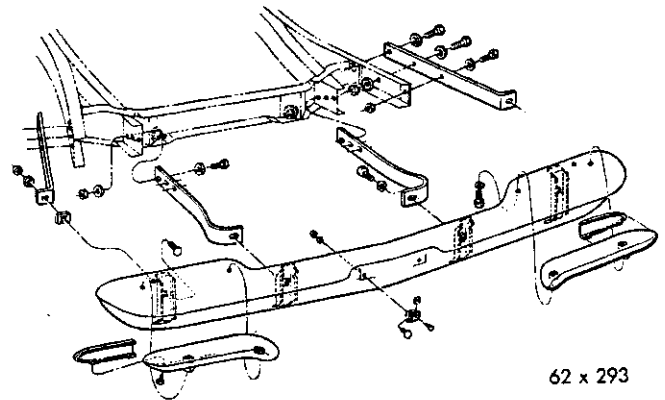

Fig. 97—Disassembled Front Bumper (Imperial)
- (1) Position the grille in its opening and install the grille to the fender tie-bar support bolts loosely.
- (2) Install the grille to the fender splash shield bolts loosely.
- (3) Align the grille in its opening for correct spacing and tighten all retaining bolts securely.
- (4) Install the grille moulding.
**BUMPER—FRONT (Fig. 97) (IMPERIAL MODELS)****a. Removal**
- (1) Disconnect the parking lamp wires.
- (2) Remove the bumper to the support bar bolts and remove the bumper assembly.
- (3) With the bumper removed, remove the